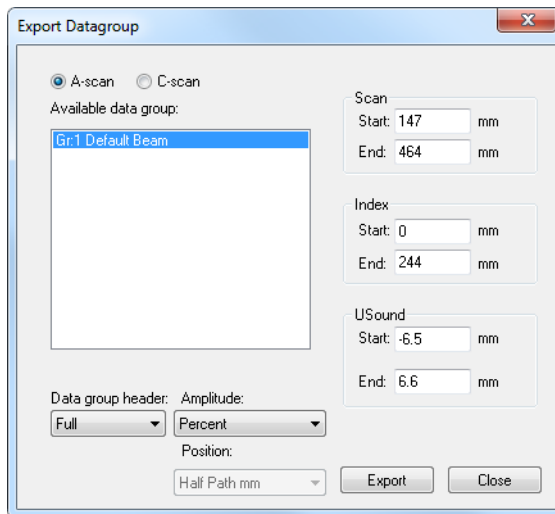

Figure 7-81 The Export Datagroup dialog box
3. In the menu, select **File > Export Datagroup** to file. See Figure 7-81 on page 423